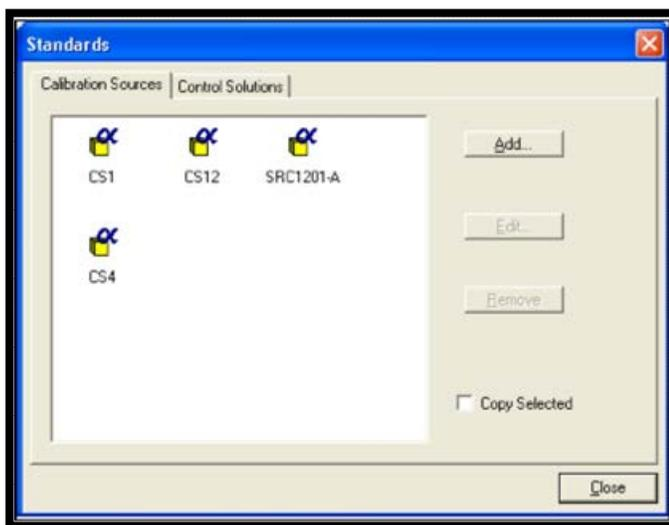

Figure 152. Add Calibration Sources
- 2) From the Toolbar, click the **Standards** button to open the Standards dialog (Figure 152). On the Calibration Sources tab, click **Add** to open the Calibration Source dialog.